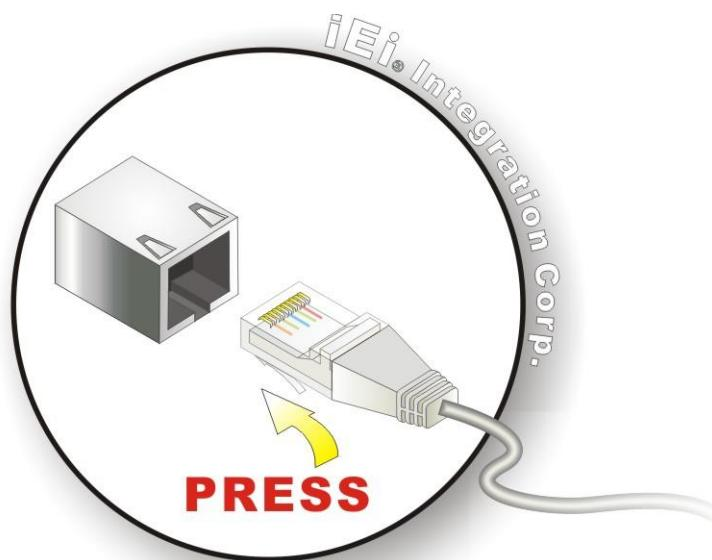

Figure 3-12: LAN Connection
Step 2: Align the connectors. Align the RJ-45 connector on the LAN cable with one of the RJ-45 connectors on the TANK-870-Q170 Series. See **Figure 3-12**.